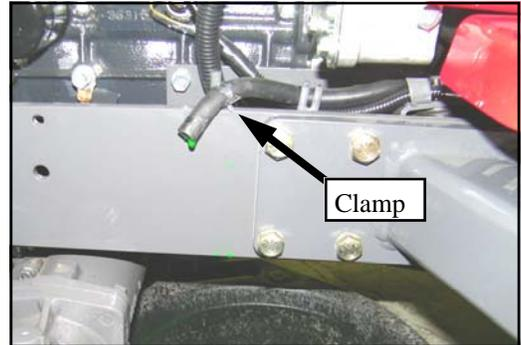

Fig. A-1 View From Left Side of Vehicle Under Hood
- A. Using vehicle manufacturer's recommended procedure, drain the cooling system. Remove OEM clamp from the tube as shown in Fig. A-1, remove the radiator cap and let coolant drain thoroughly. Remove the strap from the air filter housing and tuck it and the intake hose out of the way. Loosen the hose clamp from the bypass hose. Remove the bypass hose from the thermostat housing. Lastly, remove the sending unit (See Fig. A-2 & A-3).